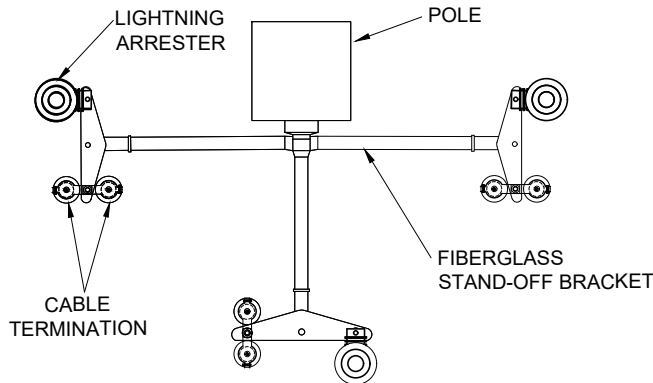

FIGURE 3
13. REFER TO FIGURE 3 FOR INSTALLATION OF TERMINATIONS AND LIGHTNING ARRESTERS ON THE FIBERGLASS STAND-OFF BRACKET.